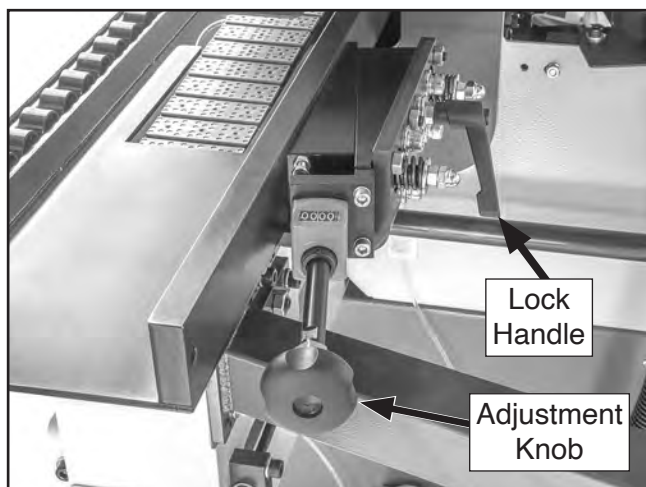

Figure 63. Location of pre-mill fence controls.
1. Loosen fence adjustment lock handle one full turn (see **Figure 63**).